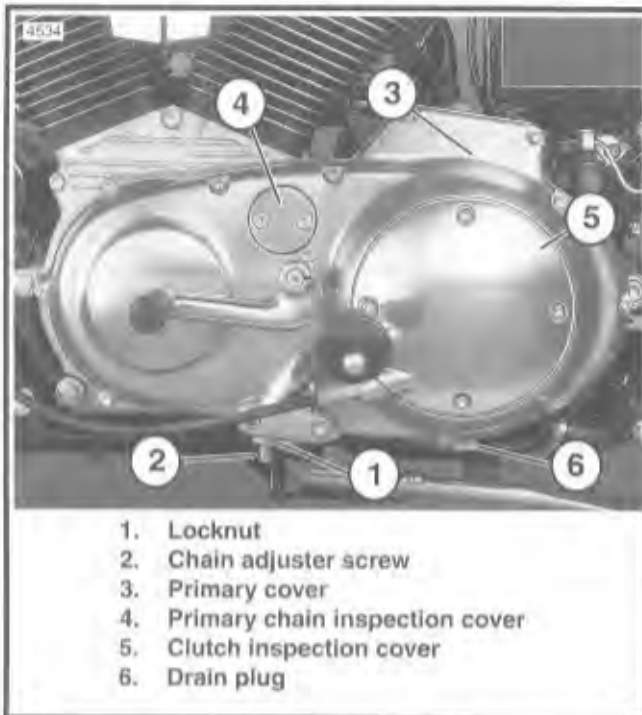
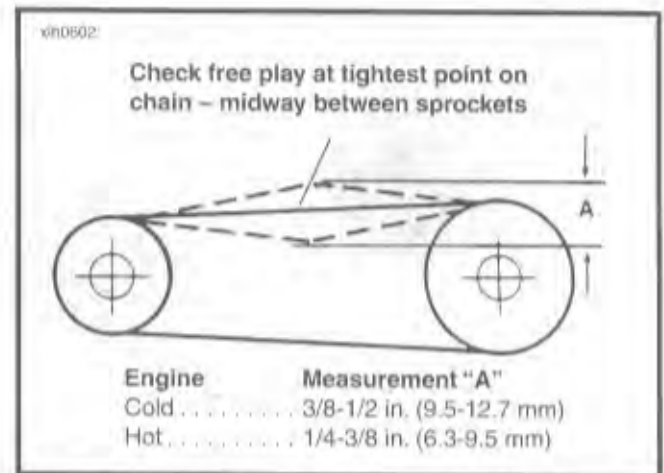
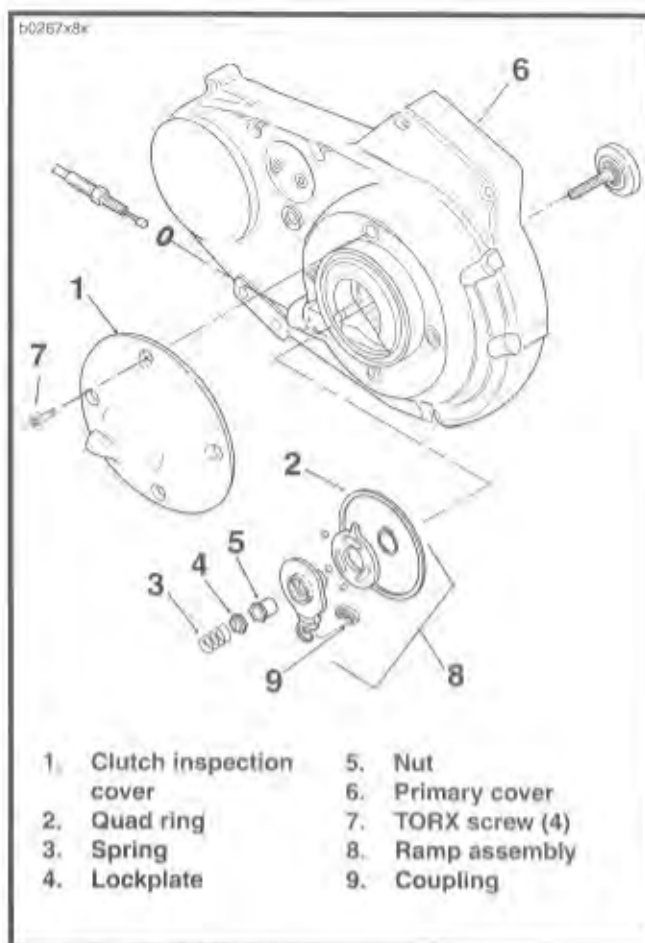

Figure 6-1. Primary Cover
Figure 6-2. Primary Chain Vertical Free Play
Figure 6-3. Clutch Inspection Cover
See Figure 6-1. Check the primary chain for correct tension by measuring its vertical free play through the primary chain inspection cover (4) opening located near the top of the primary cover (3).
See Figure 6-2. A properly adjusted primary chain should have the specified vertical free play in its upper strand. Be sure the measurement is taken midway between engine and clutch sprockets with sprockets rotated to the tightest chain position.
- Always measure vertical free play with the sprockets rotated to several different positions. The tightest measurement observed must be within the specifications shown in Figure 6-2.
See Figure 6-1. The primary chain can be adjusted without removing the primary cover (3). Proceed as follows:
1. Remove the two hex socket screws which secure primary chain inspection cover (4).
3. Loosen locknut (1). Turn chain adjuster screw (2) clockwise (inward) to reduce free play or counter-clockwise (outward) to increase free play. Vertical free play must fall within the limits specified in Figure 6-2.
If vertical free play cannot be set within the limits specified in Figure 6-2, then primary chain and/or chain adjuster are worn beyond adjustment limits. Replace parts as necessary.
4. See Figure 6-1. When tension is set correctly, tighten locknut (1) to 20-25 ft-lbs (27-34 Nm) torque.
5. Install primary chain inspection cover (4). Tighten hex socket screws to 40-60 in-lbs (4.5-6.8 Nm) torque.
1. See Figure 6-1. Place a drain pan under the engine. Remove drain plug (6) and drain lubricant from primary drive.
3. Loosen locknut (1). Turn chain adjuster screw (2) counter-clockwise to relax primary chain tension.
4. See Figure 6-3. Remove clutch inspection cover (1). Remove quad ring (2) from groove in primary cover.
5. Slide spring (3) with attached hex lockplate (4) from flats of adjusting screw.
6. Turn adjusting screw clockwise to release ramp and coupling mechanism. As the adjusting screw is turned, ramp assembly (8) moves forward. Unscrew nut (5) from end of adjusting screw.
7. Remove hook of ramp from button to the rear of cable end and coupling (9). Remove cable end from slot in coupling. Remove coupling and ramp assembly.
6. See Figure 6-3. Thread nut on adjusting screw until slot of screw is accessible with a screwdriver. Fit nut hex into recess of outer ramp and turn adjusting screw counter-clockwise.